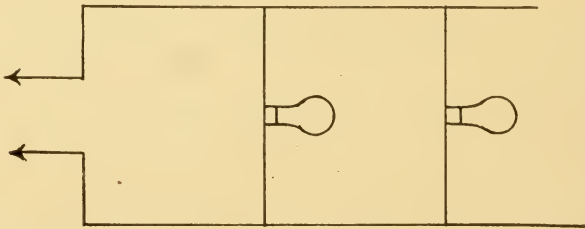
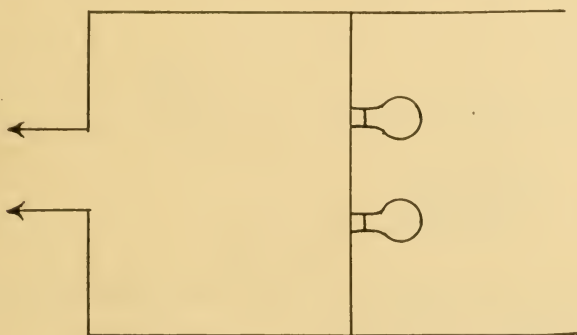

FIG. 103.—Lamps connected in parallel (shunt or multiple).
FIG. 104.—Lamps connected in series.
Figure 103 is a diagrammatic representation of a typical lighting circuit in which two lamps are connected across the line. Arrowheads indicate connection to the source of power, which is presumed to be a normal 110-volt generator.
(1) Figure 103 represents a typical parallel circuit, meaning that the items (in this case lamps) are connected in parallel (multiple, shunt) to each other.
Let us compare figures 103 and 104, assuming that the line pressure in each case is 110 volts. (2) Figure 104 is a series connection, and it is readily understood that no current can flow in either lamp filament that does not flow through the other filament also.
Under this condition the current must overcome the combined resistance of both filaments in completing its course from highest to lowest potential. This being true, it follows by Ohm's Law that, since the resistance of the path has been doubled without altering the voltage, each lamp will receive only half of the current it would if it were working alone on 110 volts as in Figure 103. The connection shown in Figure 104 is therefore obviously unsuitable for 110-volt lamps, being shown here merely to illustrate the principle under discussion;
(3) In Figure 104 the voltage remains unaltered while the resistance has been doubled, which, in effect, means that each lamp receives only half its allotted amperage, while the voltage drop across each lamp is 55 instead of 110.